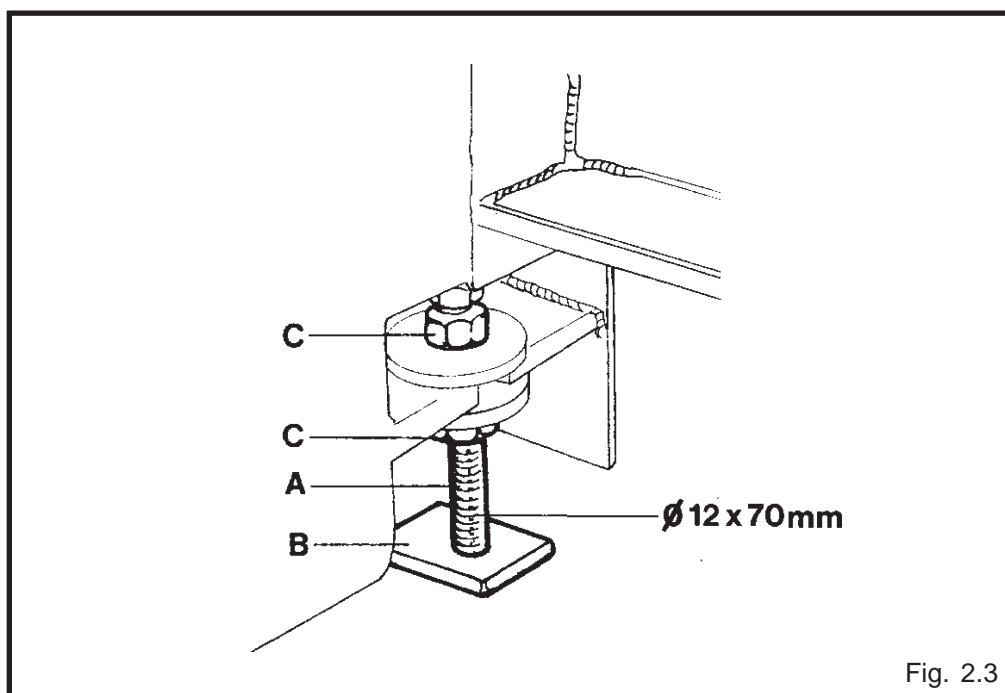

Fig. 2.3
Inserire una vite di lunghezza appropriata (12x70) con i relativi controdadi nella fessura della parte inferiore del basamento (vedi fig.2.3). Raggiungere tramite queste viti A il livellamento corretto della macchina. A regolazione avvenuta stringere i controdadi C.
To level the machine, insert the wooden shims (B) between the floor and the machine base. Check to see whether the machine is properly level by using a spirit level. Place it in the middle of the worktable, first lengthwise and then crosswise. Insert suitably long screws (12 x 70 mm) and their related locknuts in the hole at the bottom of the machine base (see fig. 2.3). Turn the screws (A) until the machine is adjusted to the correct level. Once the adjustment has been made, fully tighten the locknuts (D). The machine can also be secured to the floor (if required) by using holes provided.